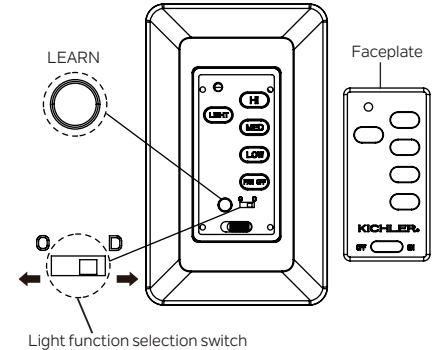

Fig. 22
1. Use a small flat screw driver and gently pry the faceplate apart from the top of wall control. (Fig. 22)
LIGHT FUNCTION SELECTION SWITCH (Fig. 22)